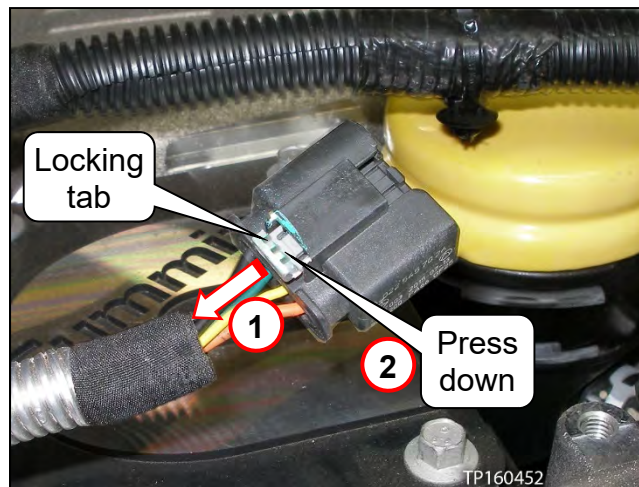
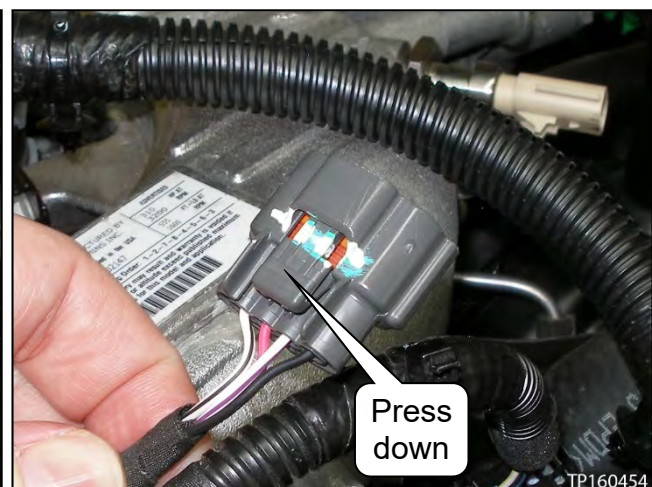

Figure 18
Figure 20
- Figure 18 - Figure 20 shows how to unfasten the different types of connectors.